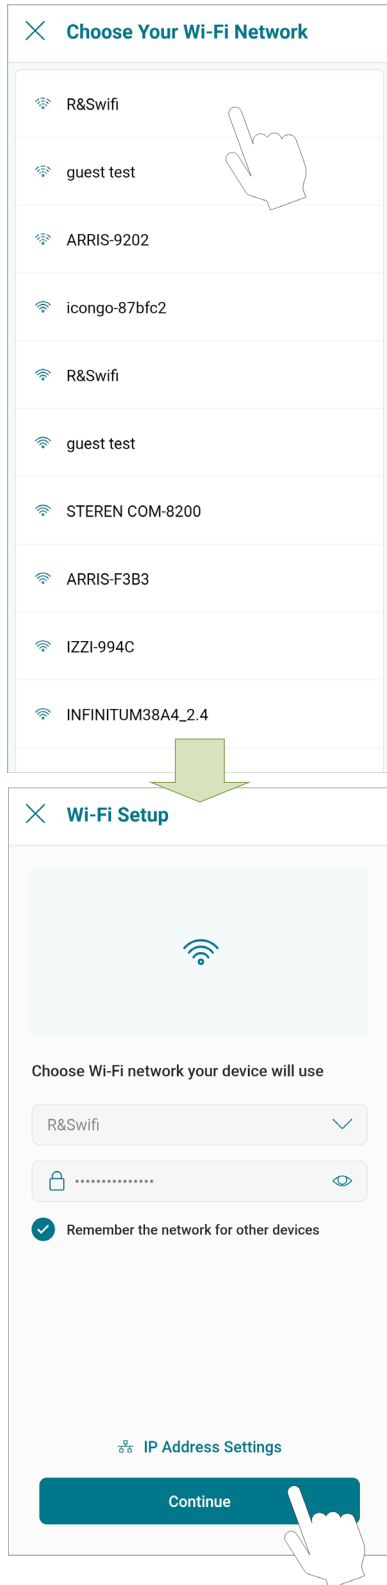

Figure 87. Wi-Fi Setup
7. The "Wi-Fi setup" screen will appear. Select or enter the Wi-Fi network you want your unit to be connected to and enter the network password. See **Figure 87**.